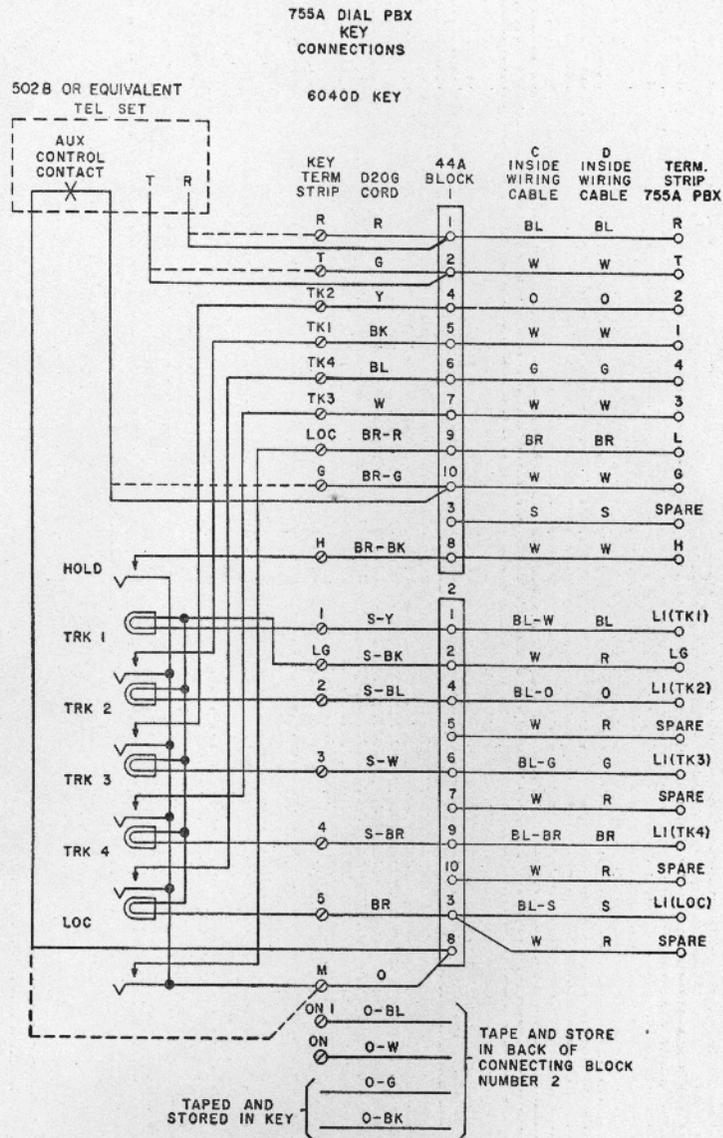

Fig. 8 — 6040D Key (Illuminated) Connection Diagram
- 6040D illuminated button key associated with a 502B or equivalent telephone set used with 755A dial PBX (see Fig. 8).
2.05 Connections of the 6040D key are shown in Fig. 8. Where a mounting cord is not required, the cable is brought directly into the key. Dotted lines indicate connections to be made when the cord is not used.